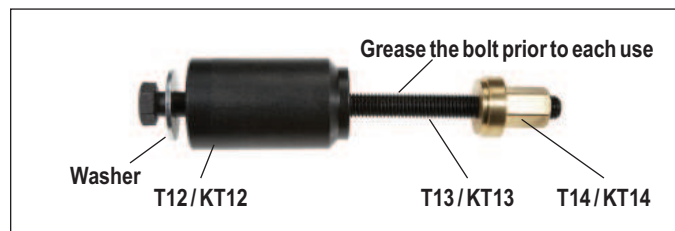

Figure 69 – Brass Bushing Removal Tool
- 5.6.12 Prepare to remove the brass bushing used in the long guide pin side. Assemble the long bolt (T13), washer, and sleeve (T12) as in Figures 69 and 70.